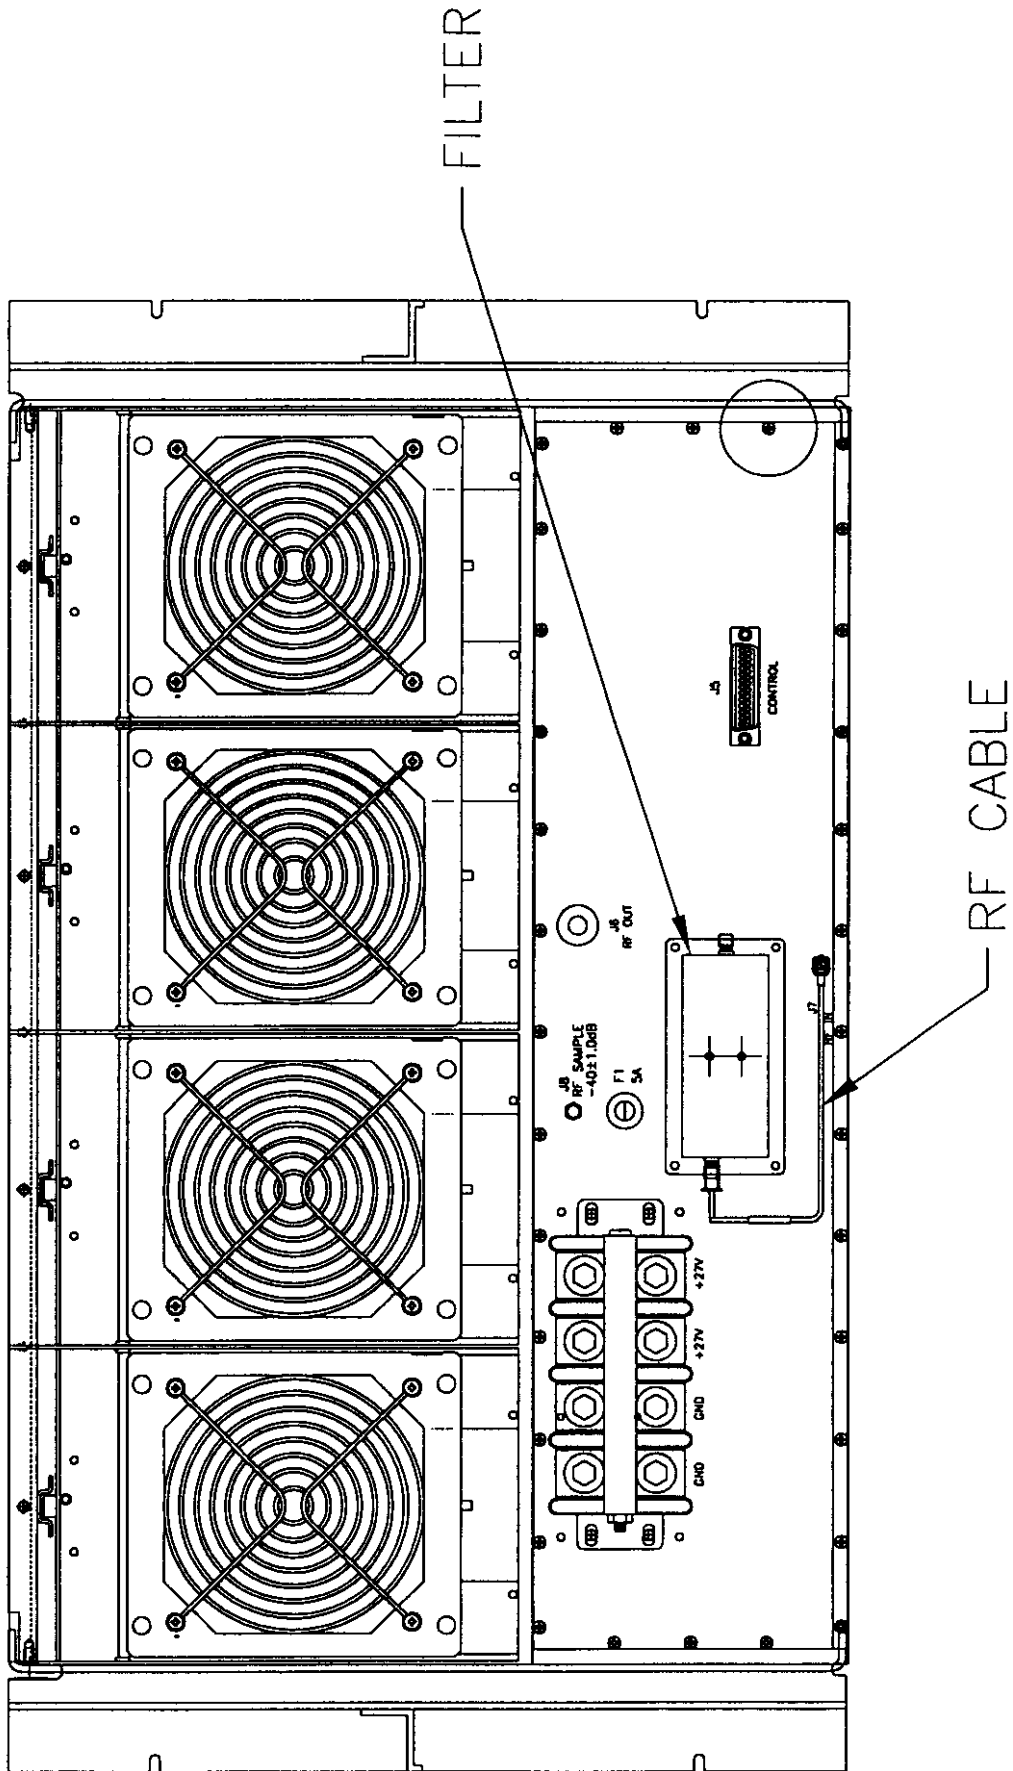

Figure 3-1. MCS6503-4 Subrack with Four Amplifier Modules, Rear View
2. Refer to figure 3-1 for the location of all subrack input/output connectors.
The amplifier system subracks are rack mountable chassis. The location and function of the system interface connectors and fuse are shown in figures 3-1 and 3-2, and are described in tables 3-1 and 3-2. The plug-in amplifier module controls and indicators, are shown in figure 3-3 and are described in detail in table 3-3.